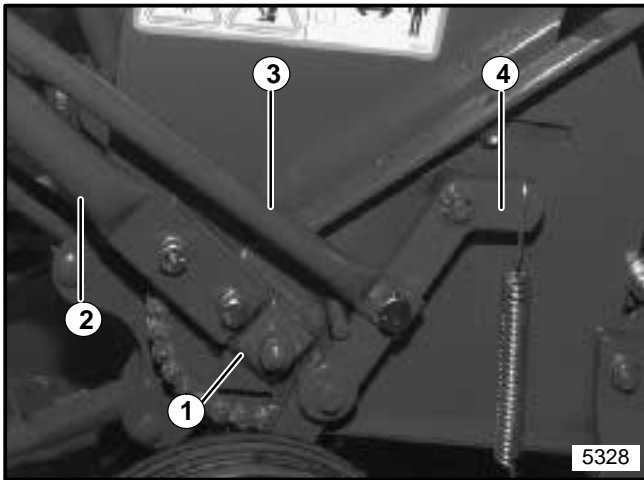

FIGURE 1
3. With curved portion of handle pointing up and square washers on both ends of axle properly aligned (See Figure 1), attach left side of handle assembly to unit using two (2) 3/8-16 x 3/4" screws with lockwashers. Do not tighten at this time.
4. On right side, attach handle with one (1) 3/8-16 x 3/4" with lockwasher in the lower hole. Do not tighten.
5. Attach height adjustment rods to height adjustment links. Secure with cotter pins. See Figure 1.
6. Position tine cover over tines and assemble with one (1) 3/8-16 x 1 1/4" screw with lockwasher through remaining hole in handle. Secure screw with washer and locknut inside tine cover. Do not tighten at this time.